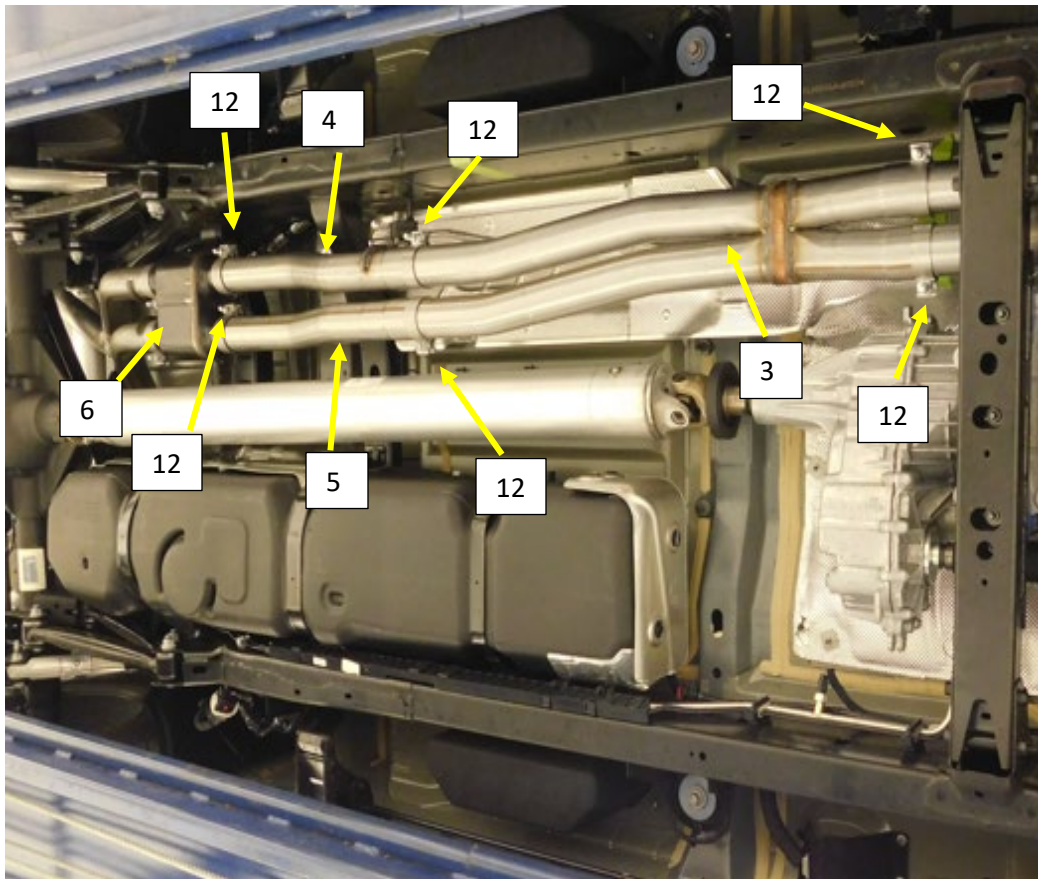

Figure.10
6. Install a 3" band clamp (12) on to each expanded and notched end of the Scvavenger pipe (3) with the bolts to the outside of the pipe and nuts facing the ground. **Fig.10**
7. Install the scavenger pipe (3) (after trimming to length if necessary) on to the down pipes with the Flowmaster logo towards the ground. Support the assembly. Tighten the clamps to allow for adjustment. **Fig.10**
8. Install a 3" band clamp (12) on to the expanded and notched end of each of the Right (4) and Left (5) muffler inlet pipes. **Fig.10**
9. Install the right muffler inlet pipe (4) on to the Scavenger pipe (3) and install the hanger rod into the Isolator on the frame. Tighten the clamp to allow for adjustment. **Fig.10**
10. Install the left muffler Inlet pipe (5) on to the Scavenger pipe (3), tighten the clamp to allow for adjustment. **Fig.10**
11. Install a 3" band clamp (12) on to each muffler (6) inlet pipe with the bolt facing away from the drive shaft and nut facing the ground. Install the muffler (6) on to the muffler inlet the pipes. Tighten the clamps to allow for adjustment. **Fig.10**